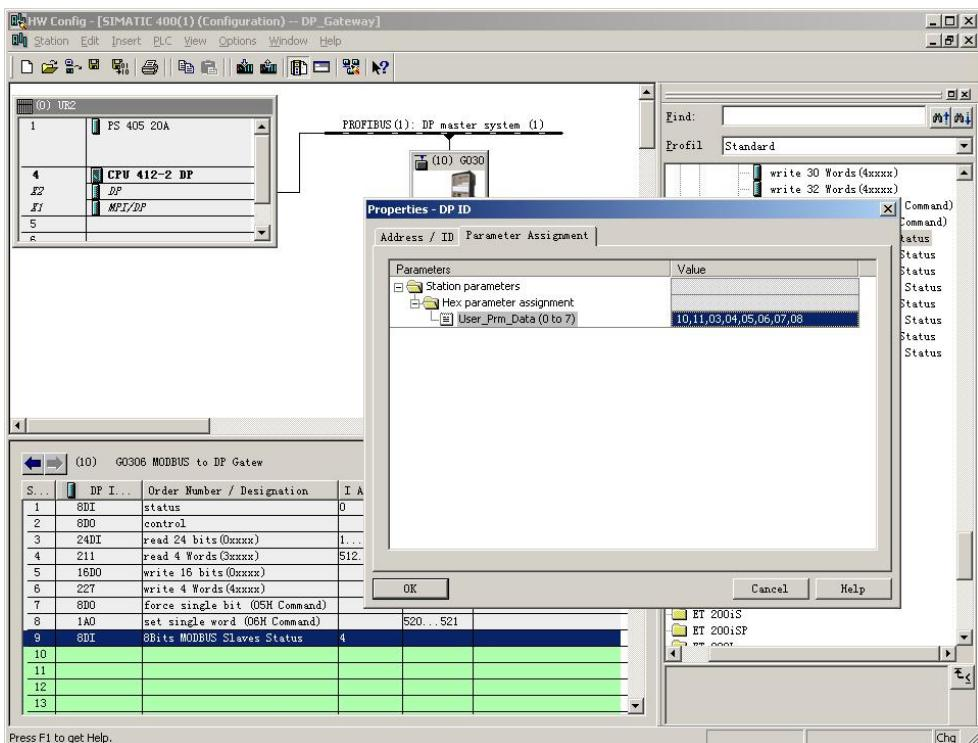

Figure 36 Configure Slave Address to Be Monitored
- c) Configure user parameters of “8Bits MODBUS Slaves Status” module, shown in Figure 36:
As shown in Figure 36, each device corresponds to 1 byte module user parameter. In the previous example, total two slave stations (10, 11) is configured, so write the two addresses into to the module user parameter.